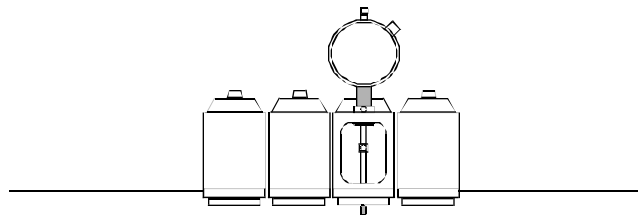

Figure 3-19. Test Cartridge Installed.
4. Remove the Cyan ink cartridge. Snap the test cartridge with the micrometer gauge into the position vacated by the Cyan ink cartridge. See Figure 3-19. Ensure that the micrometer can be read from the BACK of the printer.